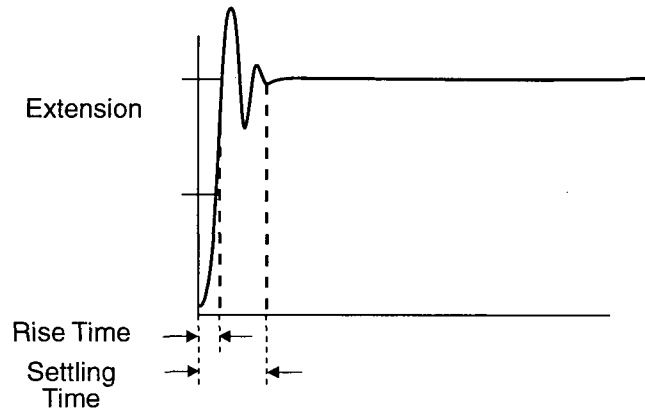
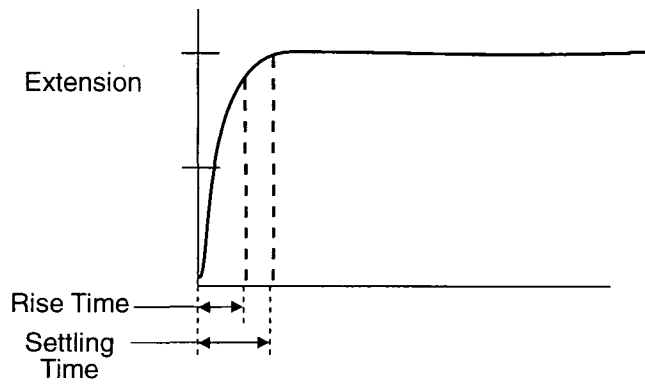

Figure 5.4. Typical Step Response - 10 KHz Bandwidth
Figure 5.5. Typical Step Response - 1 KHz Bandwidth
**Step response:** The typical step response for a PZO or PZL Pusher, driven by a PZ-150 Amplifier/Driver, is shown below. Figure 5.4 is the response with a 10 KHz amplifier bandwidth. A smoother and slower step function response is achieved by setting the PZ-150 Amplifier to 1 KHz bandwidth as shown in Figure 5.5.